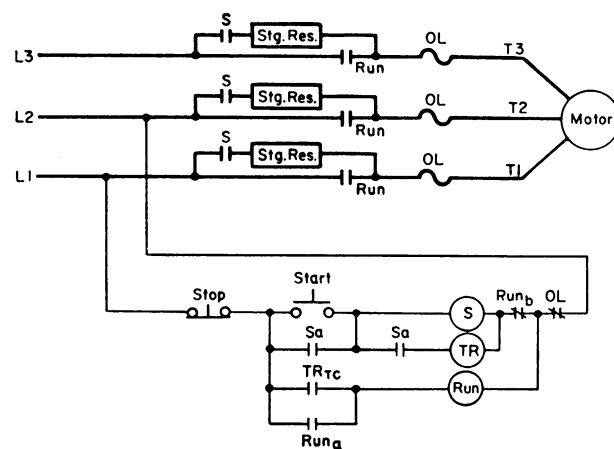

Fig. 12-18 Wiring diagram for a primary resistor type of starter. (Westinghouse)
start. Closing the *start* button or other pilot device energizes the start contactor (S) shown in Fig. 12-18. This connects the motor in series with the starting resistors for a reduced-voltage start. The contactor (S) is now sealed in through its interlock (Sa). Timing relay (TR) is energized, and after a preset time interval its contacts TR_{TC} close. This energizes the run contactor, *run*, which seals through its interlock *run_a*. The contacts (*run*) close, bypassing the